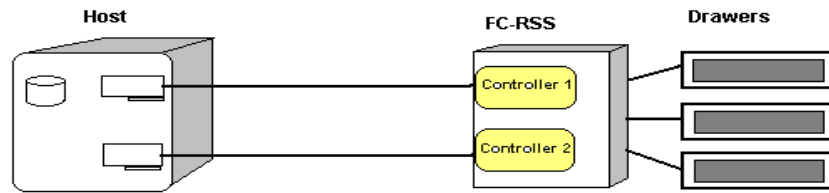

Figure 27. Single Host
- Single Host—One host machine is connected by two fibre channel loops to each controller in a control unit. Figure 27 on page 51 shows a schematic of a single host configuration which provides availability in the case of one of the FC-AL loops failing. It also allows you to balance, to a certain degree, the I/O load across each loop.